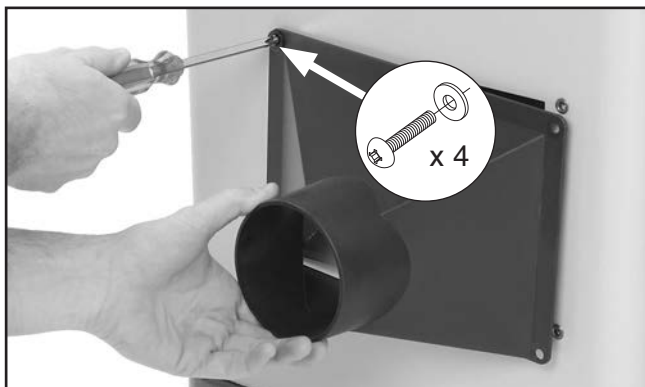

Figure 11. Installing dust port.
13. Attach dust port to stand with pre-installed Phillips screws and flat washers, as shown in **Figure 11**.